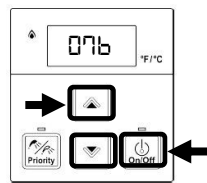

Figure 7: Controller Display
- Press the **▲ (Up)** button until **07A** appears on the display (Figure 7).
- Press the **On/Off** button until **07b** appears on the display (Figure 7).